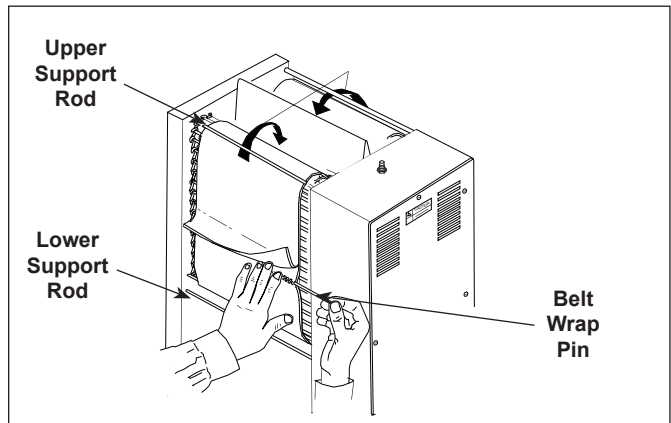

Figure 6. Installing Belt Wrap
3. Open both Conveyor Covers and pull the Belt Wrap Pin out of the zipper (Figure 6).
6. Install the new Belt Wrap(s) around the Conveyor Belt Chains inside the conveyor support rods with the zipper flap exposed and hanging down (Figures 6 & 7).